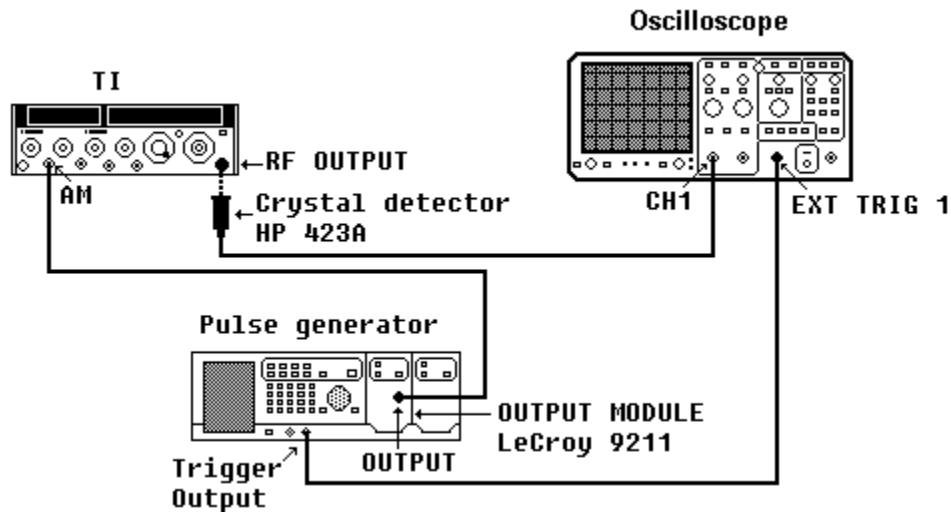

Figure 4. Doubler gain - adjustment setup
(31) Adjust **OUTPUT LEVEL** vernier control(s) for a 0 dB indication on TI meter.
(32) Connect equipment as shown in figure 4.